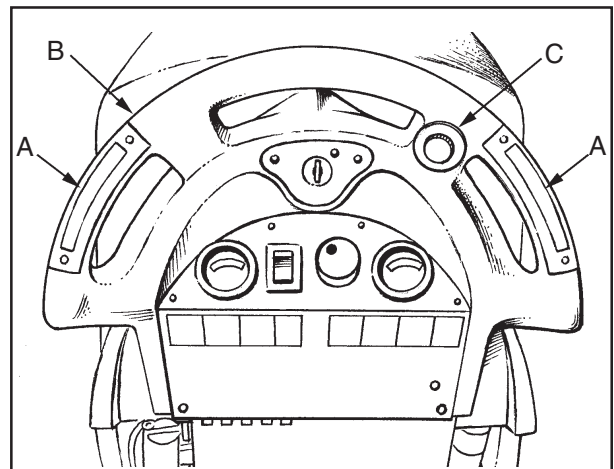

Figure 21
5. When either the left or right forward/reverse switches (figure 21, item A) are pushed in, the machine will go forward.
6. Control the speed of traverse by using the traverse speed control knob (figure 21, Item C).
8. To reverse the machine, push in the white reverse switch (figure 21 item B) and either the right or left forward/reverse switch (figure 21 item A) at the same time.